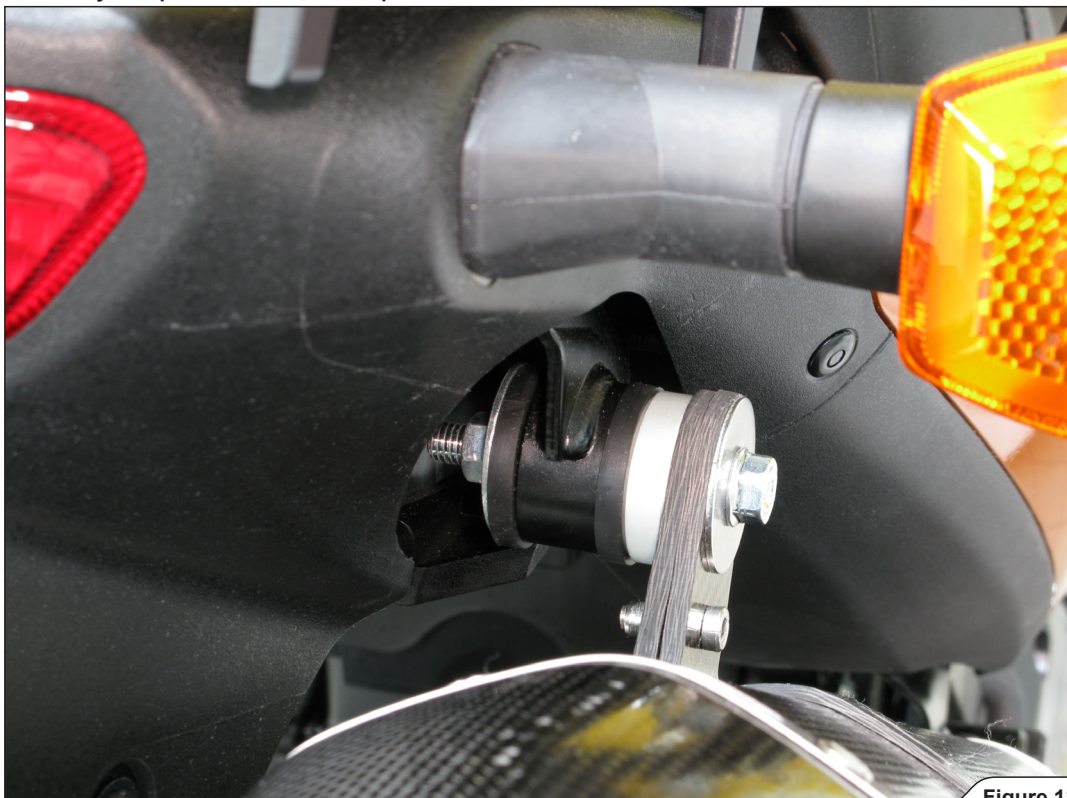

Figure 13
5. Position the muffler correctly and slide it onto the outlet side of the link pipe. Attach the springs, align the muffler in respect to the motorcycle and tighten the carbon-fiber clamp onto the sub frame, using Akrapović bolt, aluminium spacer with stock washers and nut. Install the right passenger's footrest back onto the sub frame (Figure 13, 14).